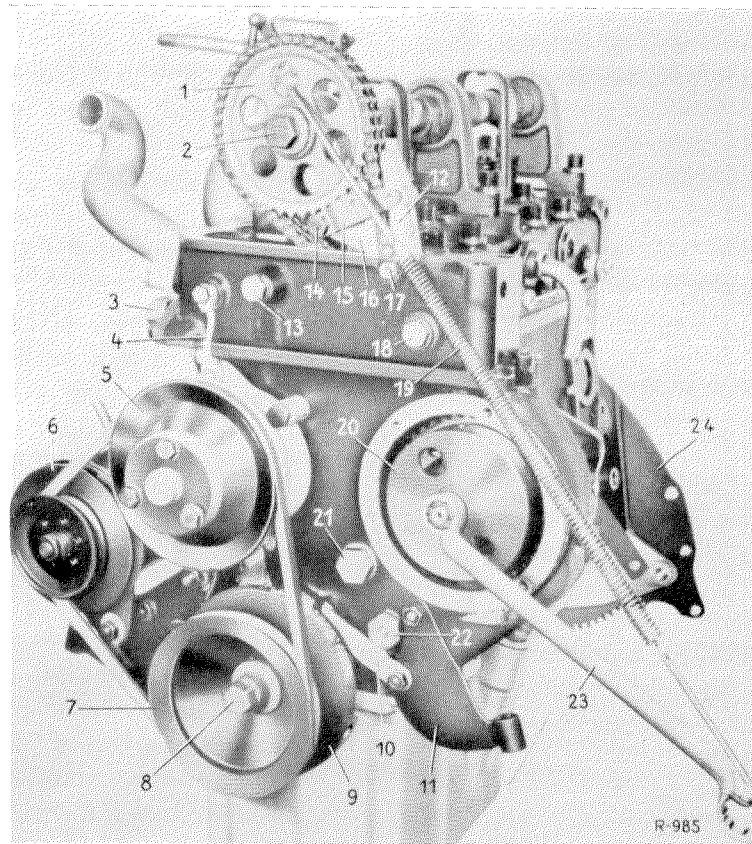

Figure 05-23/1
2. Unscrew the hex. hd. screw (14) and remove the holder (15) with the inner guide rail (16) from the outer guide rail (12) and from the cylinder head (see Figure 05-23/1).
3. Unscrew the hex. hd. screw (2), i.e. mounting screw for the camshaft sprocket (see Figure 05-23/1).
4. Turn the crankshaft **in direction of rotation** until the OIT mark (TDC) on the counterweight (9) coincides with the adjusting pointer (10) (see Figure 05-23/1) and at the same time the mark on the spacer washer coincides with the mark on the first camshaft bearing (see Figure 05-27/1).
7. Unscrew the screw plug (13) for the idler sprocket pivot pin (see Figure 05-23/1).
10. Screw on the screw plug (13) with seal ring and tighten (see Figure 05-23/1).
11. Check position of crankshaft and camshaft, if necessary, correct (see item 4).
12. Slide camshaft sprocket with placed on chain onto the camshaft, observing the meshing marks (see item 6).
13. Mount the hex. hd. screw (2) including washer and lock washer (see Figure 05-23/1).
14. Turn crankshaft back by 90 deg. and then forth until the O/T mark (TDC) on the counterweight (9) coincides with the adjusting pointer (10) (see Figure 05-23/1).
16. Install the inner guide rail (16) with holder (15) and mount the cylinder head cover (see Figure 05-23/1 and Job No. 01-3).